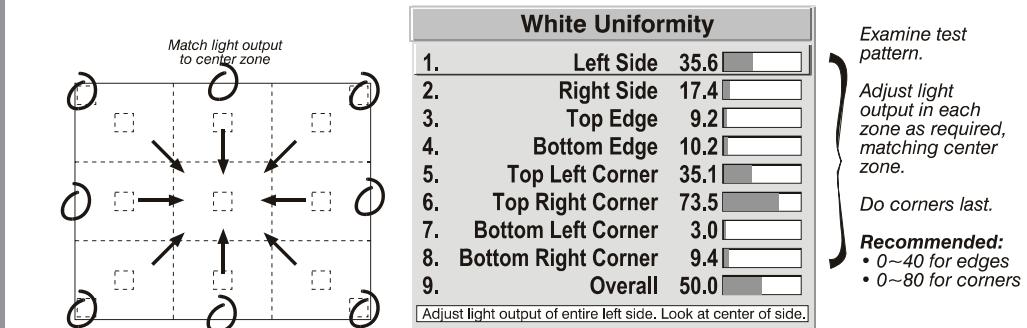

Figure 3.17. Match Zones to Center Light Output
- 2b) Return to the *White Field Uniformity* menu. Beginning with the screen that exhibits the most obvious color shift(s), for each edge that exhibits a noticeably different color temperature from the center, select the corresponding *Uniformity* adjustment menu — *Left*, *Right*, *Top* or *Bottom*. For example, if any part of the left side is too blue, too red or too green, go to the *Left Uniformity* menu and adjust the colors (i.e., change their light output) until all portions of the left side closely match the center color temperature. Adjust an edge first (focusing on its center), and then adjust its corners. See Figure 3.17.
- 3a) For each screen, compare the light output of each edge and corner to that of the center. If any of the areas differ, use the *White Uniformity* menu to match edges and corners to the center as described below (see Figure 3.17). Begin with the screen exhibiting the most obvious variations in light output.